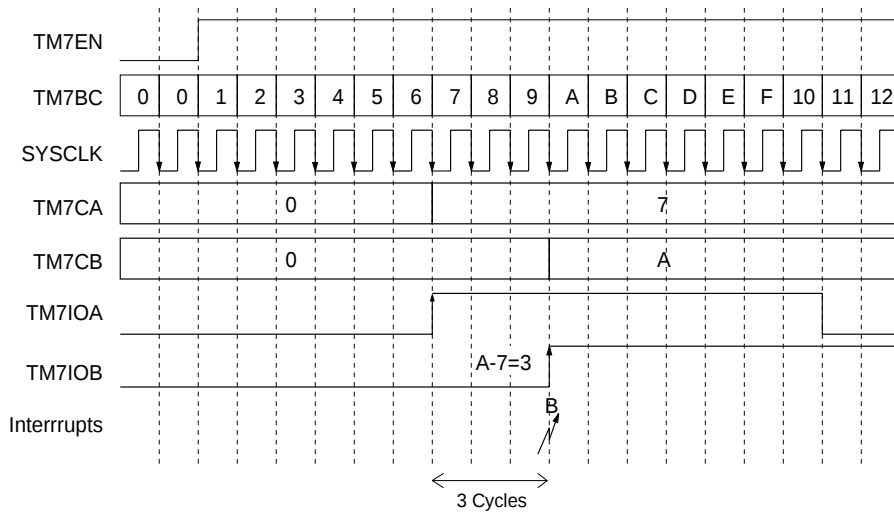

Figure 4-3-7 Two-phase Capture Timing
The setup steps after step (2) are the same as steps (3) to (7) in “4-3-4 One-phase Capture Input Using 16-bit Timer”. The Figure 4-3-7 shows 000A - 0007 = 0003 or 3 cycles.